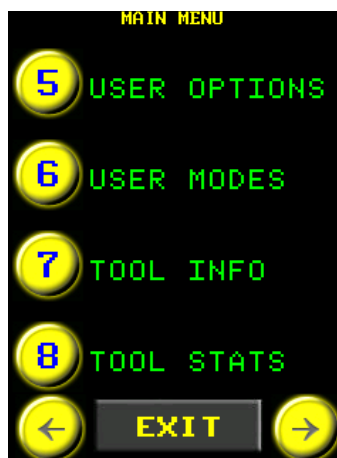

Figure 5.3-1: Main Menu
2. Select “User Options” from the Main Menu (Figure 5.3-1).